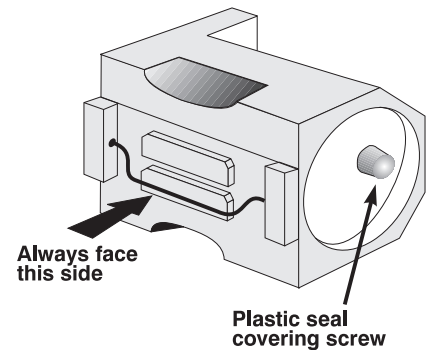

Figure 4.5. Lamp valve
3. Locate the plastic seal protruding from the **right** side of the module—the side opposite the lens (Figure 4.5). Remove this seal to expose the valve screw underneath.